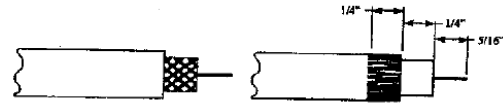

Fig 1
3. Prepare cable end to 5/16" center conductor, 1/4" dielectric and braid, per instructions of commercially available drop cable preparation tool (Fig. 1).
5. For tri-shield or quad-shield, remove the outer foil. Fold back braid(s) against the cable jacket ensuring all braid ends are uniform around the jacket and not bunched or clumped (Fig. 1).